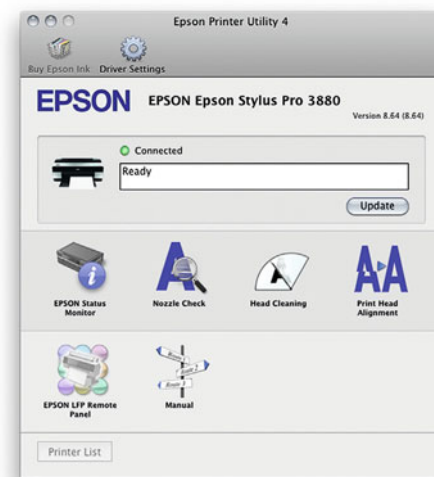

FIGURE 8.2 EPSON Printer Utility main window.
1. *Launch the printer utility* from the applications folder or the Printer/Fax System Preferences window. This will bring up the main window of the printer utility, shown in Figure 8.2.